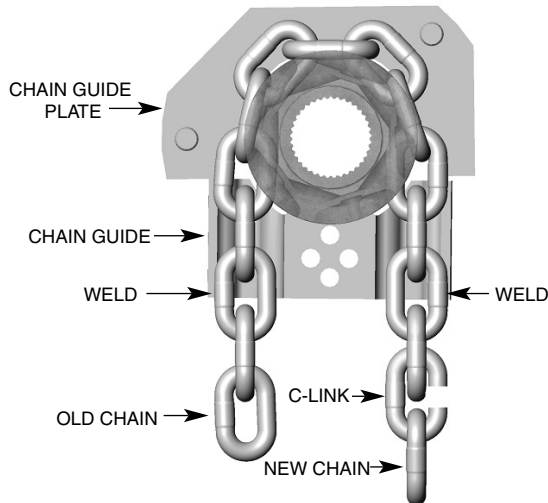

FIGURE 5-3. CHAINING HOIST
- e. Make a “C”-shaped chain link by grinding through one side of the end link of either the old or new chain. See Figure 5-3.
<ol style="list-style-type: none"> 1. Hoist overloaded. 2. Motor brake requires adjustment. 3. Worn overload limiting clutch. 4. Low voltage. 5. Faulty SINPAC starting switch or start capacitor (single phase hoists only). 	<ol style="list-style-type: none"> 1. Reduce load within rated capacity of hoist. 2. Check motor brake adjustment. See Figure 5-3. 3. Replace clutch. 4. Check voltage at hoist power cord with hoist starting. Voltage should be no less than 90% of voltage specified on hoist. 5. Replace faulty componen